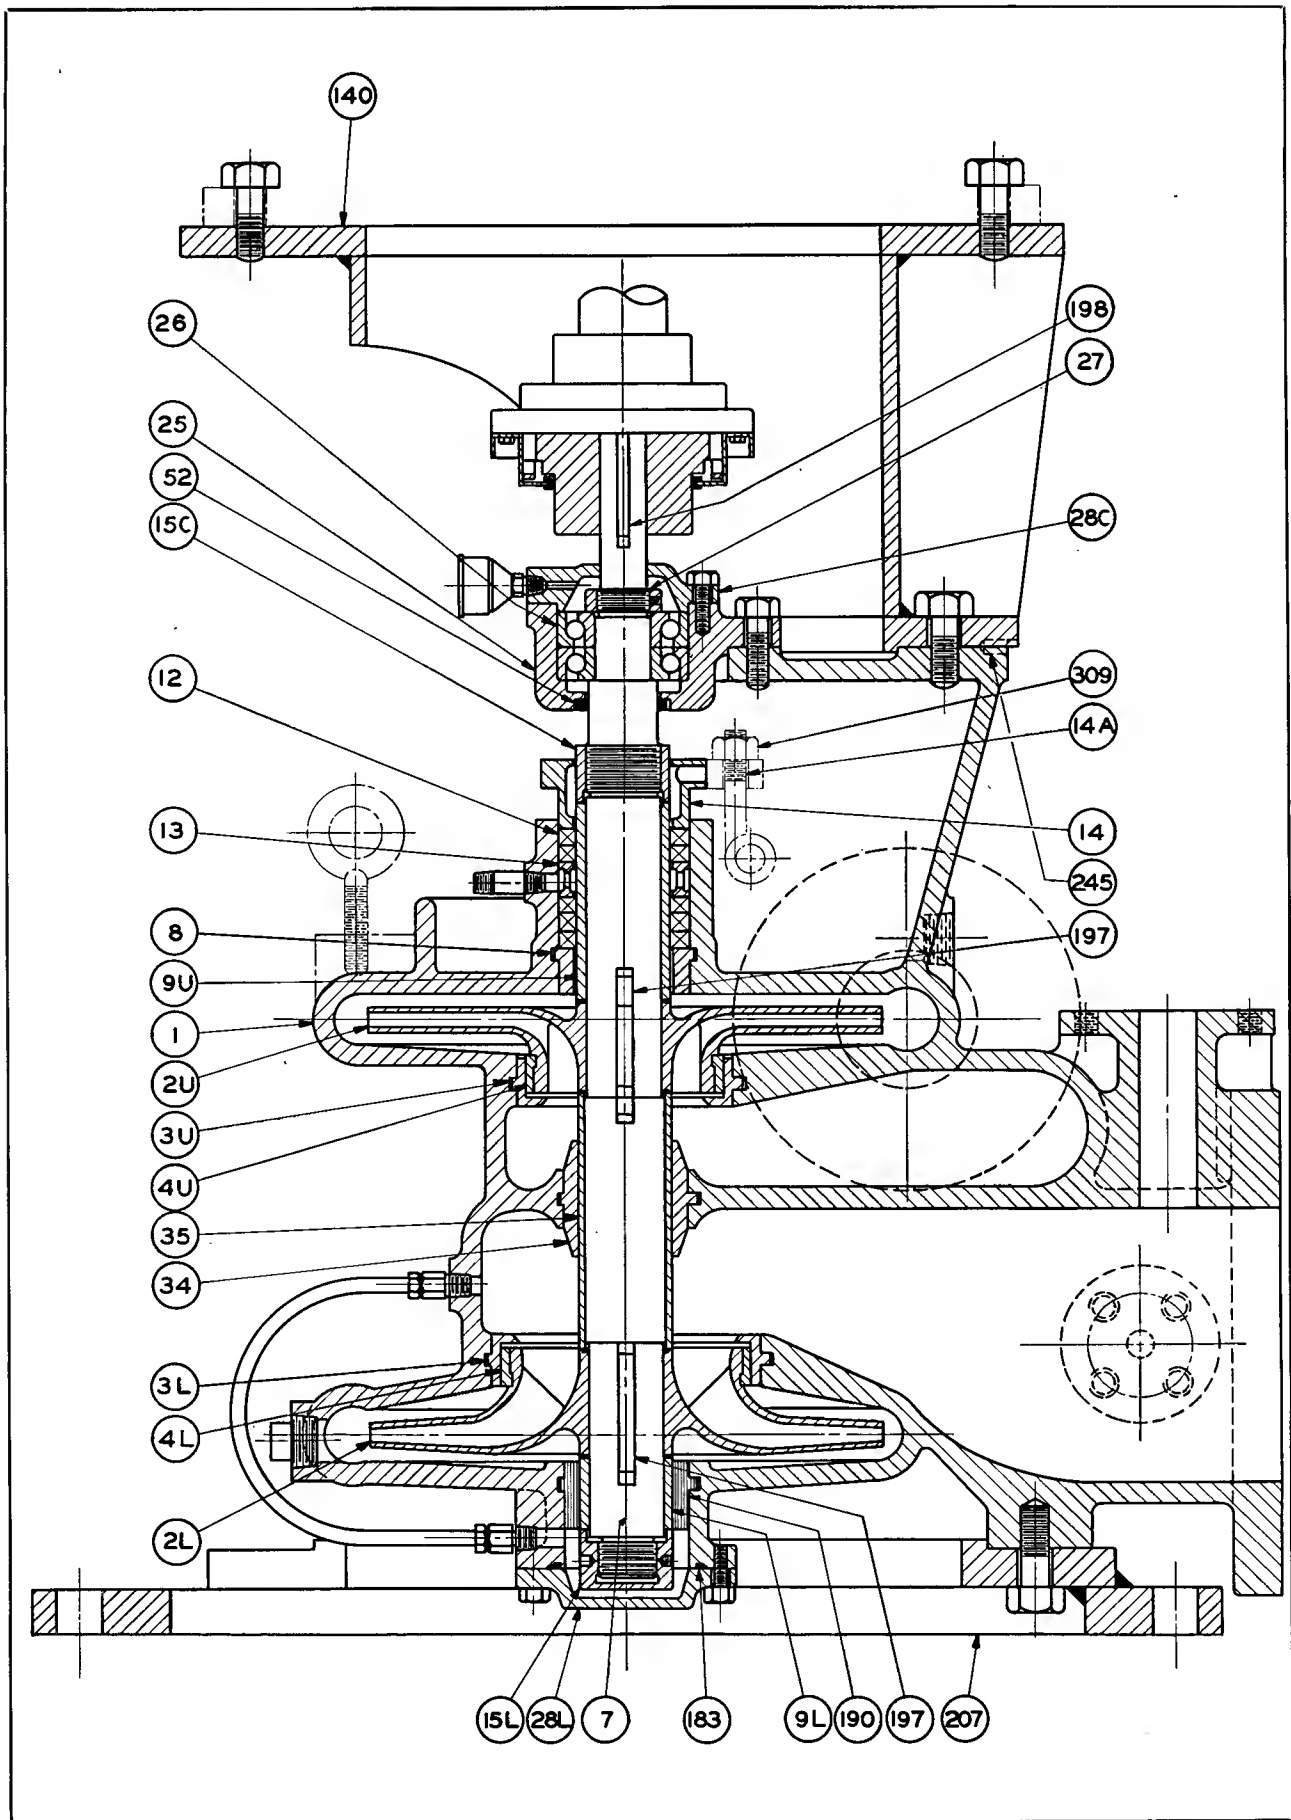
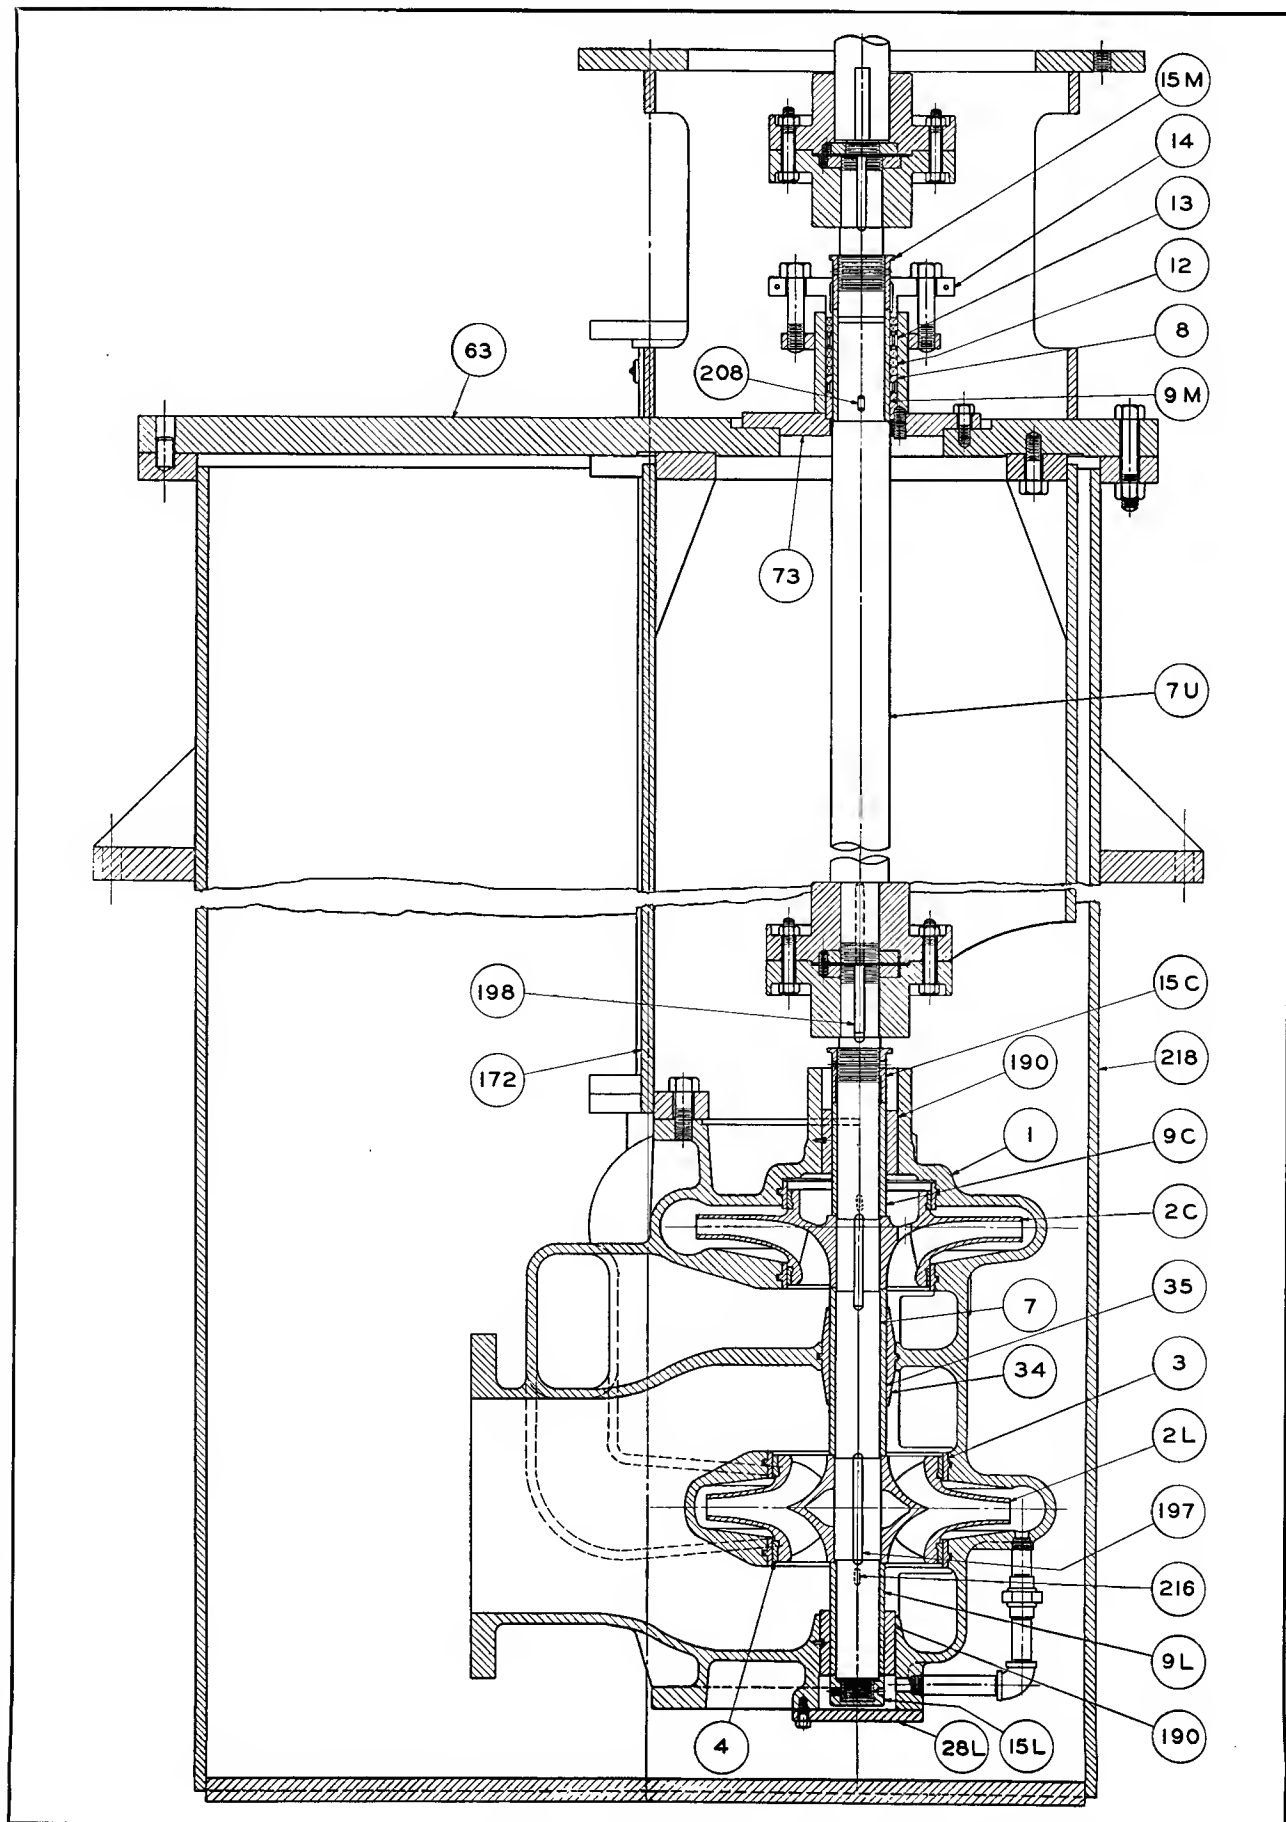

Fig. 30 — Type CF2V Pump.
Fig. 31 — Type CF2VT Pump.
17. Type CF2V (Fig. 30) and CF2VT (Fig. 31) Centrifugal
1. Type CF2VT (Fig. 31)
2. Type CF2V (Fig. 30)